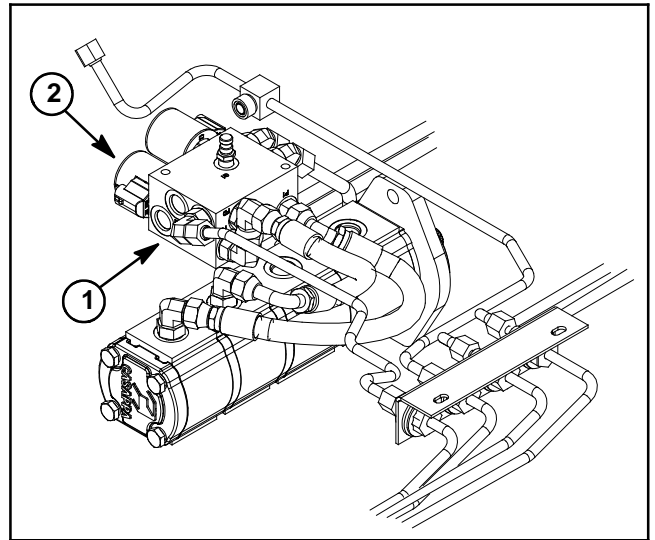

Figure 52
5. While monitoring the pressure gauge and using a phototac to identify the cooling fan speed, disconnect the wire harness connector (white/green and black wires) from the PRV solenoid on fan drive manifold (Fig. 52). Both fan speed and pressure should increase and stabilize after the solenoid is disconnected.